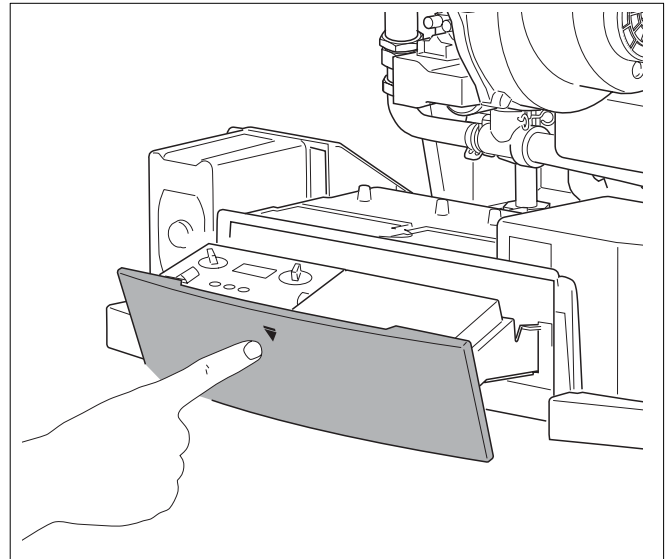

Fig. 34 Closing the control panel
- Push against the drawer (fig. 34) to close the control panel.